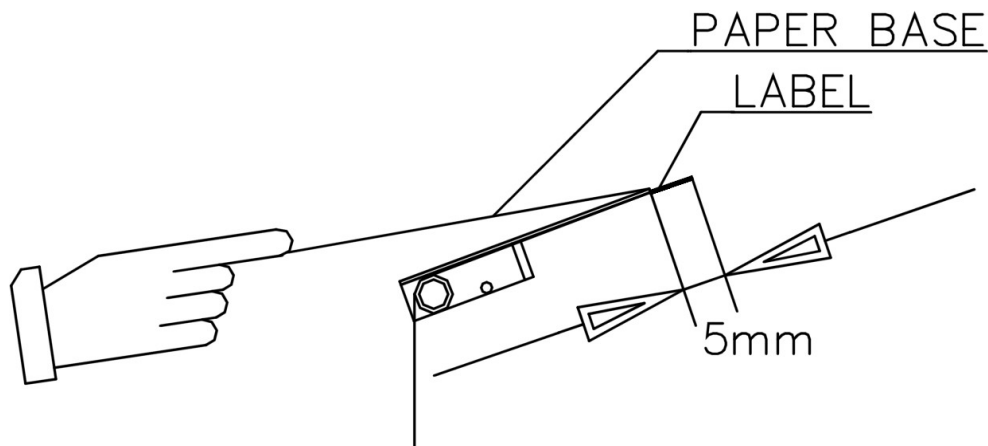

fig. 4
- stop when the label is about 5 mm out of the blade (fig.4);
To put a back label according to an already attached label, you need the option photocell like in fig. 4/a or a micro-switch to read the reference mark on the bottom of the bottle.